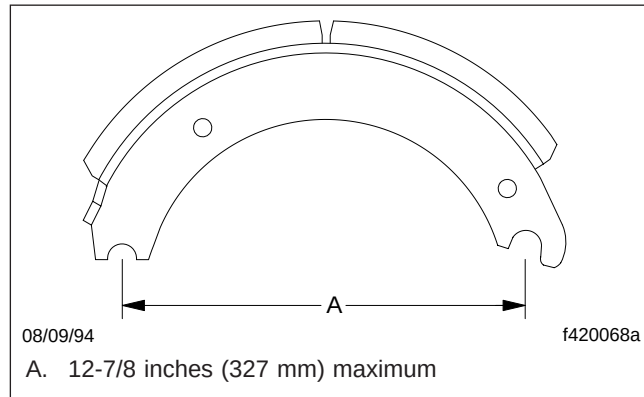

Fig. 7, Measuring the Shoe Span
6. Check the distance from the center of the anchor pin hole to the center of the cam roller hole (the shoe span). The shoe span must not exceed 12-7/8 inches (327 mm). Replace the shoes if needed. See Fig. 7.